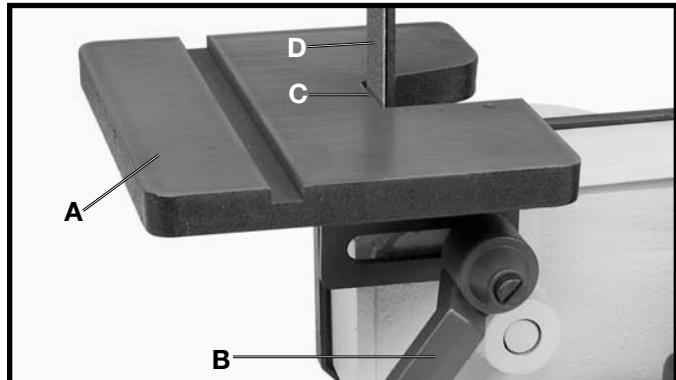

Fig. 25
The belt sander table (A) Fig. 25, can be tilted or moved in or out by loosening lock handle (B), moving the table to the desired position, and tightening lock handle (B). **NOTE:** The lock handle (B) is spring-loaded and can be repositioned by pulling out on the handle and repositioning it on the serrated locking stud located directly under the handle.
**WARNING: TO AVOID TRAPPING THE WORK OR FINGERS BETWEEN THE TABLE AND SANDING BELT, THE TABLE EDGE (C) FIG. 25, SHOULD BE POSITIONED A MAXIMUM OF 1/16 INCH FROM SANDING BELT (D) AS SHOWN.**